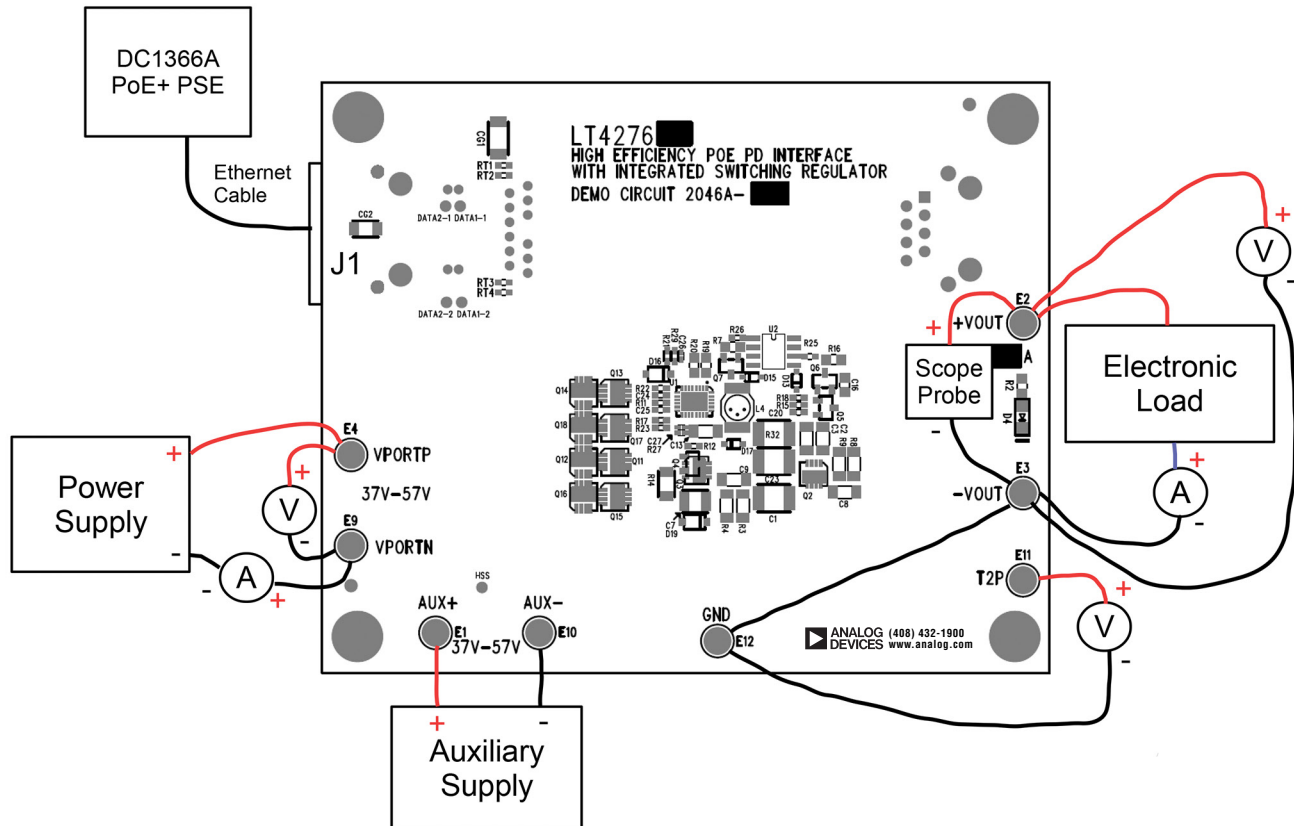

Figure 8. Proper Measurement Equipment Setup
Demonstration circuit 2046A-F is easy to set up to evaluate the performance of the LT4276 in a PoE+ application. Refer to Figure 8 for proper equipment setup and follow the procedure below.
1. Place test equipment (voltmeter, ammeter, power supplies, and electronic load) as shown in Figure 8.
A) Connect a PoE+ capable PSE with a CAT-5 cable to the RJ45 connector, J1. See Figure 8.
B) Or, connect a 37V to 57V capable power supply (Power Supply in Figure 8) across V_{PORTP} and V_{PORTN}.
C) If evaluating the auxiliary power supply (Auxiliary Supply in Figure 8), connect a 37V to 57V capable power supply across AUX+ to AUX-.